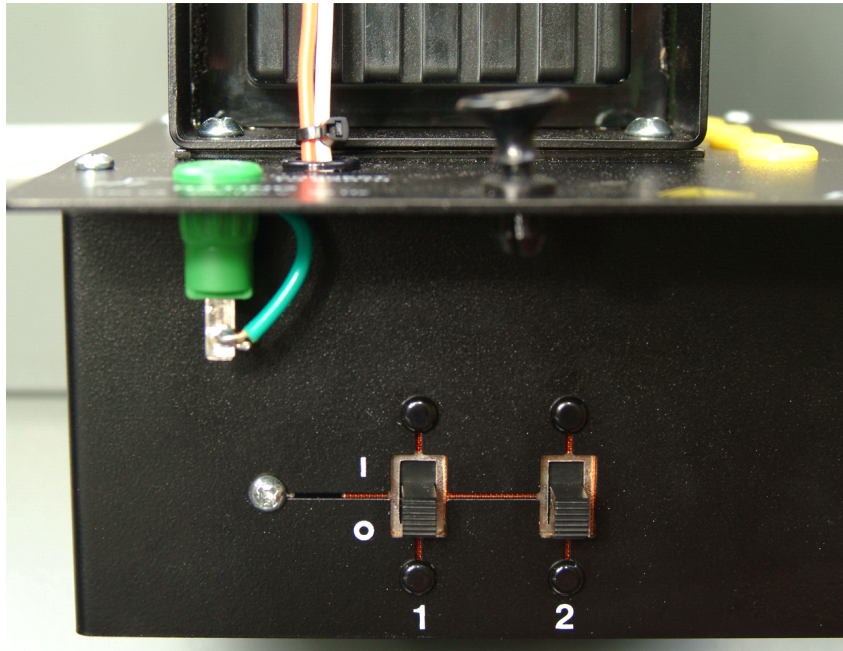

Figure D-2. Make sure that the fault switches are set to the O position.
**Note:** *Each time you install a module in the Mobile Workstation, make sure that the fault switches located behind the module faceplate are set to the O position as shown in Figure D-2.*